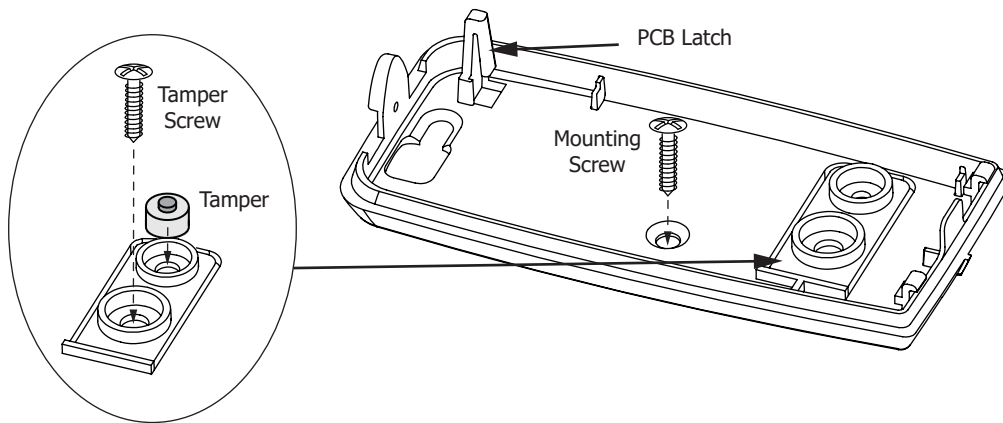

Figure 2: Mounting the Transmitter
5. Place one screw into the mounting hole location shown in Figure 2 and secure the housing to the surface.
6. Insert the included tamper screw and tamper as shown in Figure 2.